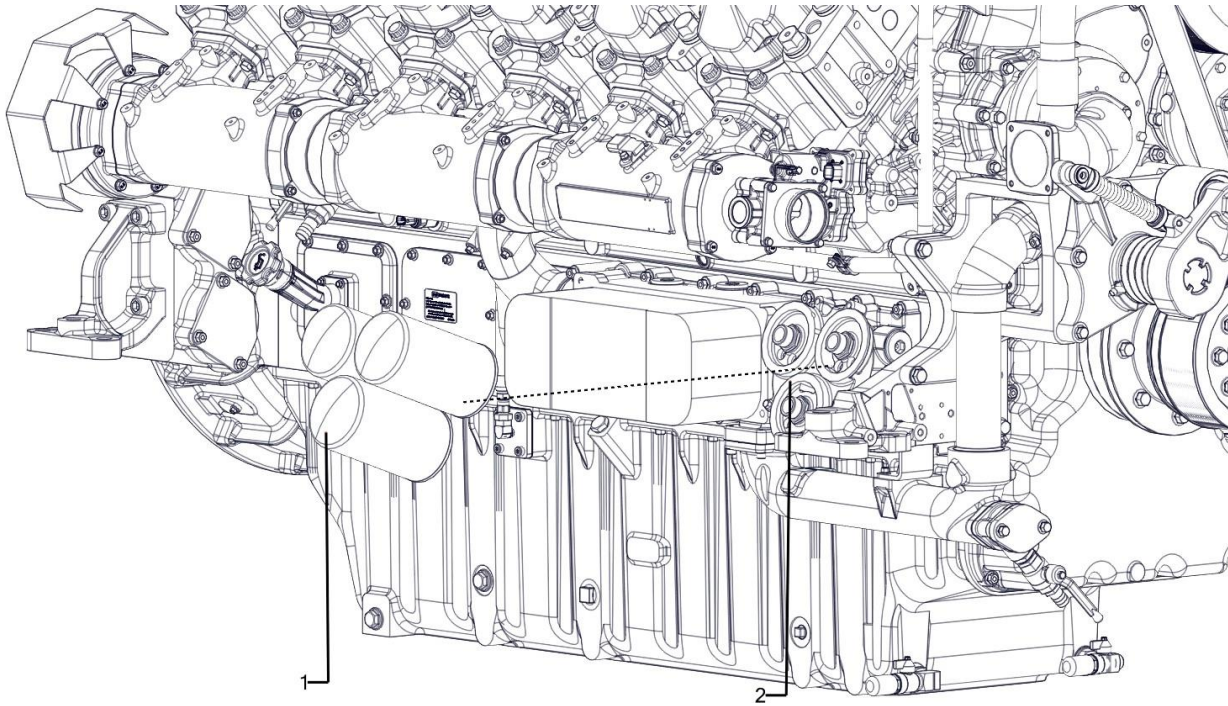

Figure 182. Engine Oil Filter Assembly
2. Attach a collection hose to the fitting (Figure 182). Drain the oil into a suitable 40-gallon container. When the oil has completely drained, close the valve, remove the hose, and reinstall the dust cap. Dispose of the drained oil in accordance with environmental regulations.